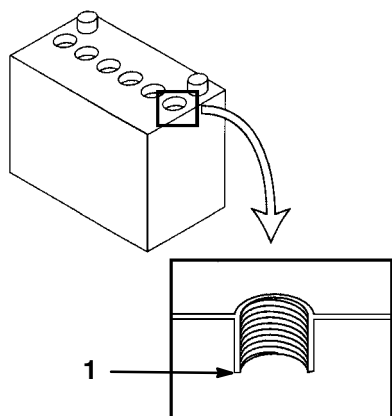

Figure 50
3. Lift off the cell cover to see into the cells. The electrolyte must be up to the lower part of the tube (Fig. 50). Do not allow the electrolyte to get below the plates.
2. Lift off the cell cover (Fig. 50).
3. Slowly pour distilled water into each battery cell until the level is up to the lower part of the tube (Fig. 50).